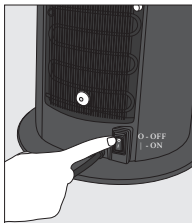

Figure 9
- 6.1 Turn off Hot Tank Switch and disconnect power supply cord (Figure 9 and Figure 10).